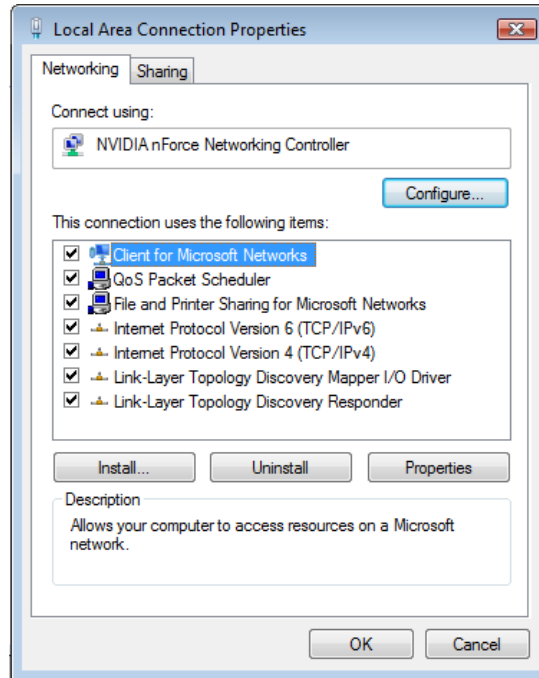

Fig. A-2: Reaching the Local Area Connection Properties screen
2. Right-click **Local Area Connection** and then click **Properties** from the drop-down menu. The window shown in **Figure A-2** will appear.